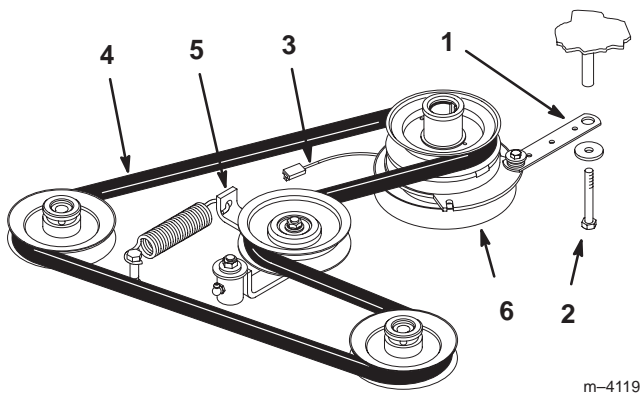

Figure 58
2. Remove the bolt from the clutch strap and unplug the clutch electrical wire (Fig. 58).
3. Pull the spring loaded idler to the side. Remove the traction belt from the engine and hydro pump pulleys (Fig. 58).
4. Install the new belt around the engine and hydro pump pulleys (Fig. 58).
5. Pull the spring loaded idler to the side and align the belt. Release pressure on the spring loaded idler (Fig. 58).